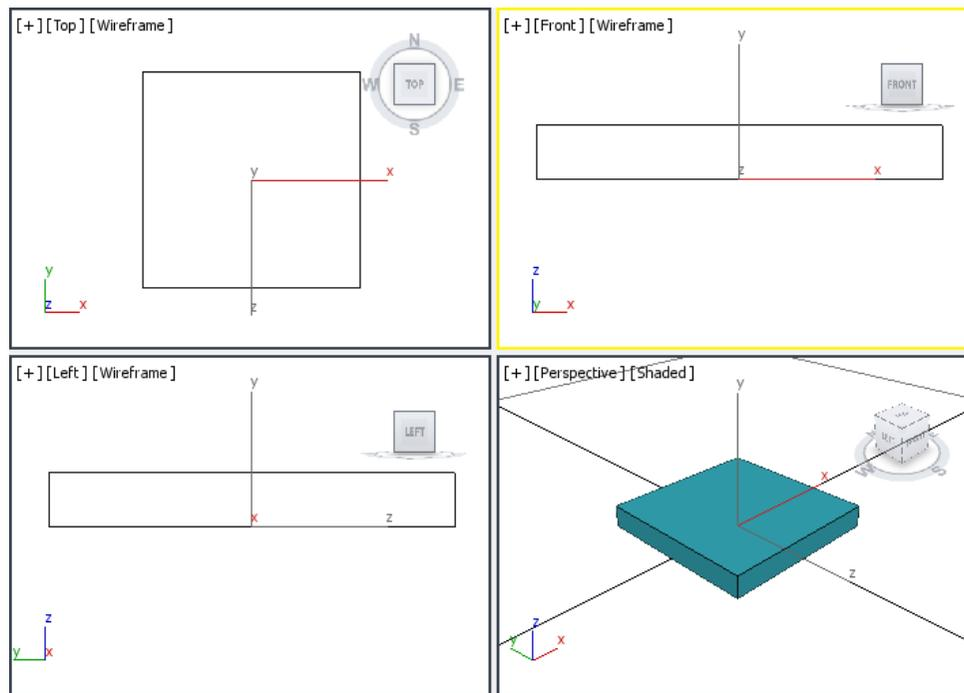

Figure 5-24 The base extruded in all viewpoints
5. In the **Parameters** rollout, set the value **0.4** in the **Amount** spinner and press the ENTER key; *base* is extruded, as shown in Figure 5-24.